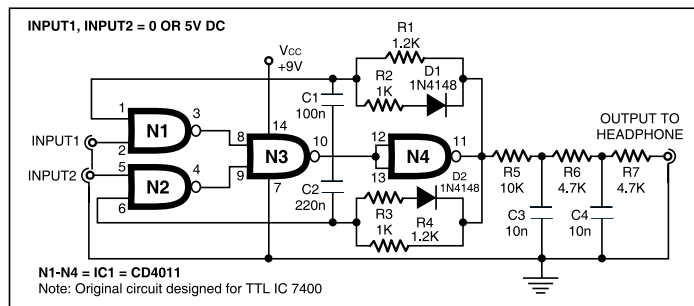
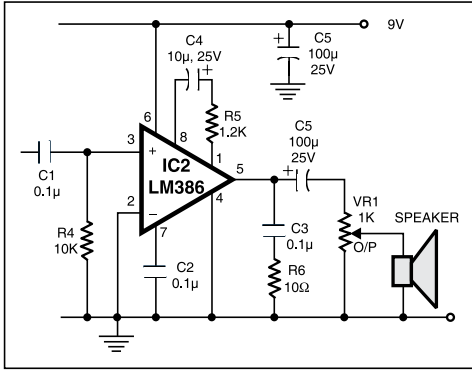

Fig. 2.17: Circuit for generating three tones using a single digital IC
Fig. 2.18: Audio amplifier
A low component count, three-tone generating circuit can be constructed using an inexpensive digital IC and a handful of components. It is capable of generating three tones corresponding to the two logic levels at its two inputs. The circuit as shown in Fig. 2.17, is very useful as a source for generating three different tones while transmitting data, e.g., for telemetry and remote control, etc. It uses NAND CD4011 (original circuit used IC 7400 with 5V supply) and a few resistors, diodes and capacitors.
**Note:** The Fig. 2.18 is an additional circuit from Project 6, which should be connected at the output of Fig. 2.17 into its input (between C1 and ground) for amplifying the output and hearing it through the loudspeaker. (For details, refer Project 6)